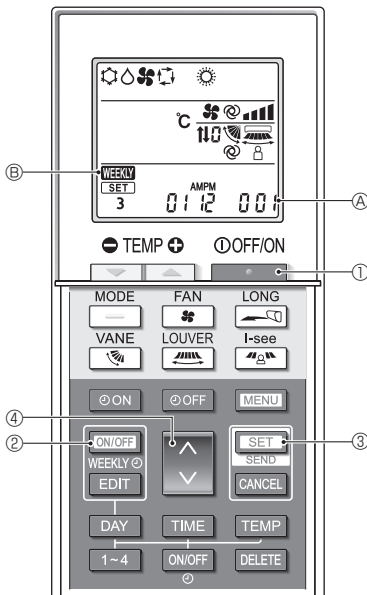

Fig. 6-1
6.1. Switching to the function setting mode (Fig. 6-1)
- Press the **ON/OFF** button ① to stop the air conditioner.
- If the weekly timer is enabled, press the **ON/OFF WEEKLY** button ② to disable the timer. (**WEEKLY** ③ disappears.)
- Press the **SET** button ③ for 5 seconds.
6.2. Entering the group model setting number (Fig. 6-1)